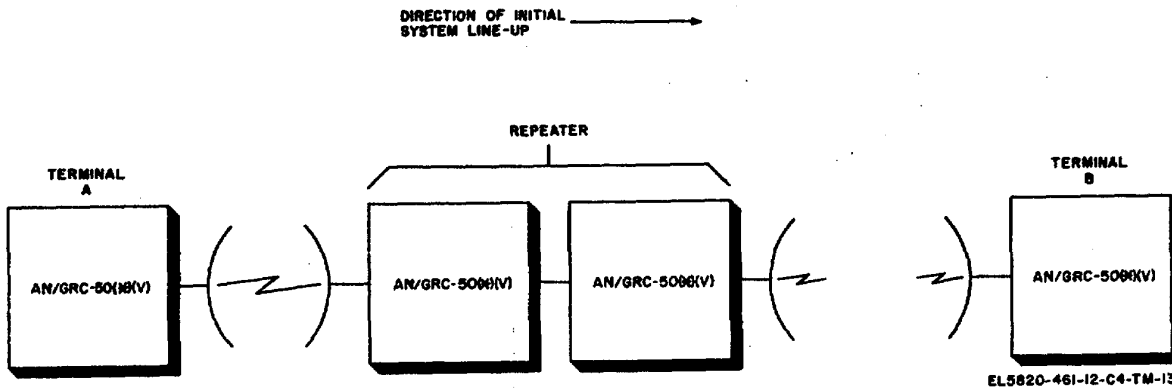

Figure 3-10. System lineup.
b. *General Lineup Procedures.* One terminal in the system is designated as the control station; this station will be designated terminal A, and the other terminal as terminal B (fig. 3-10). The lineup procedures will be performed between terminal A and the next station in the line. When the procedures are completed between these two stations, the operator at terminal A will inform the operator at the next station to begin lineup procedures with the station next to it in the A-to-B direction. The lineup procedures are continued until all stations in A-to-B direction of the system have performed system lineup procedures. Terminal B then assumes temporary control of the system, and the lineup procedures are performed in the B-to-A direction. The system is ready for normal operation after completion of the following: lineup procedures in B-to-A direction.